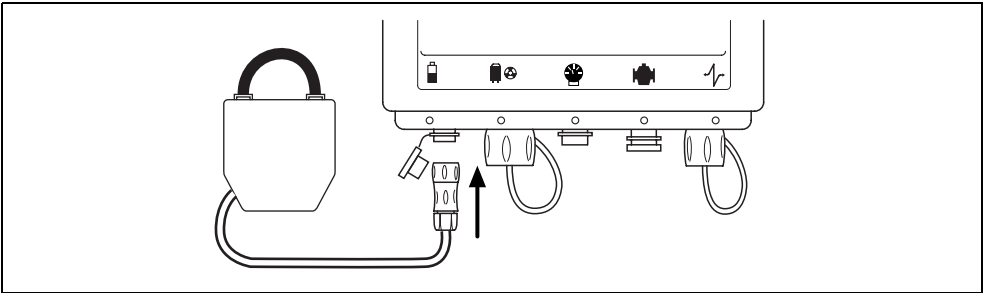

Fig. 4.1 Connecting Batteries – AquaMaster Explorer
- The AquaMaster Explorer is battery powered, refer to Fig. 4.1 for connection details.
AquaMaster can be supplied with an optional battery pack. Make connections as shown in Fig. 4.1.